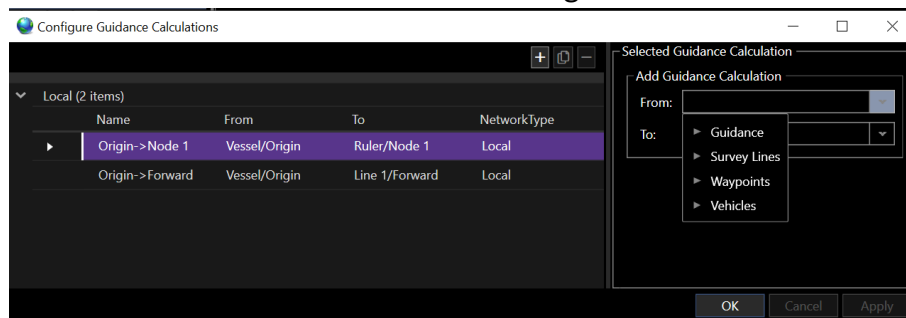

FIGURE 12-6 GUIDANCE CALCULATIONS - FROM OBJECT SELECTION
3. Expand the **From** drop-down button to select the *From* object. The **From** available items are presented in a hierarchical tree as shown in Figure 12-6 f for selection.